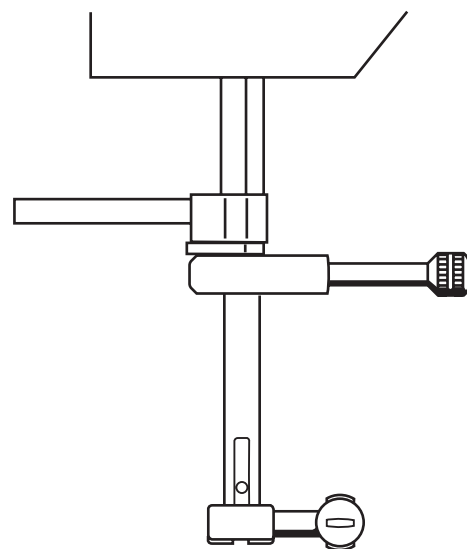

Fig. 8
- Turn the handwheel in sewing direction until the needle-rise clamp is up against the spacer (fig. 8).
- Re-fit the needle-rise clamp and repeat the procedure as described in „Check“ until the needle bar has moved upwards by 2 mm and the clamp is in contact with the spacer (fig. 8).